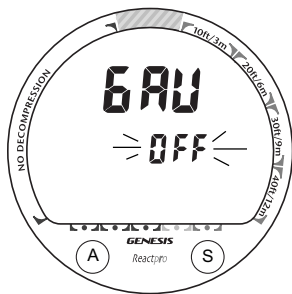

Fig. 15 - Set Digital Gauge Mode
- Press the A (left) button momentarily (< 2 sec), release when the GAU screen appears with the Set Point flashing (Fig. 15).